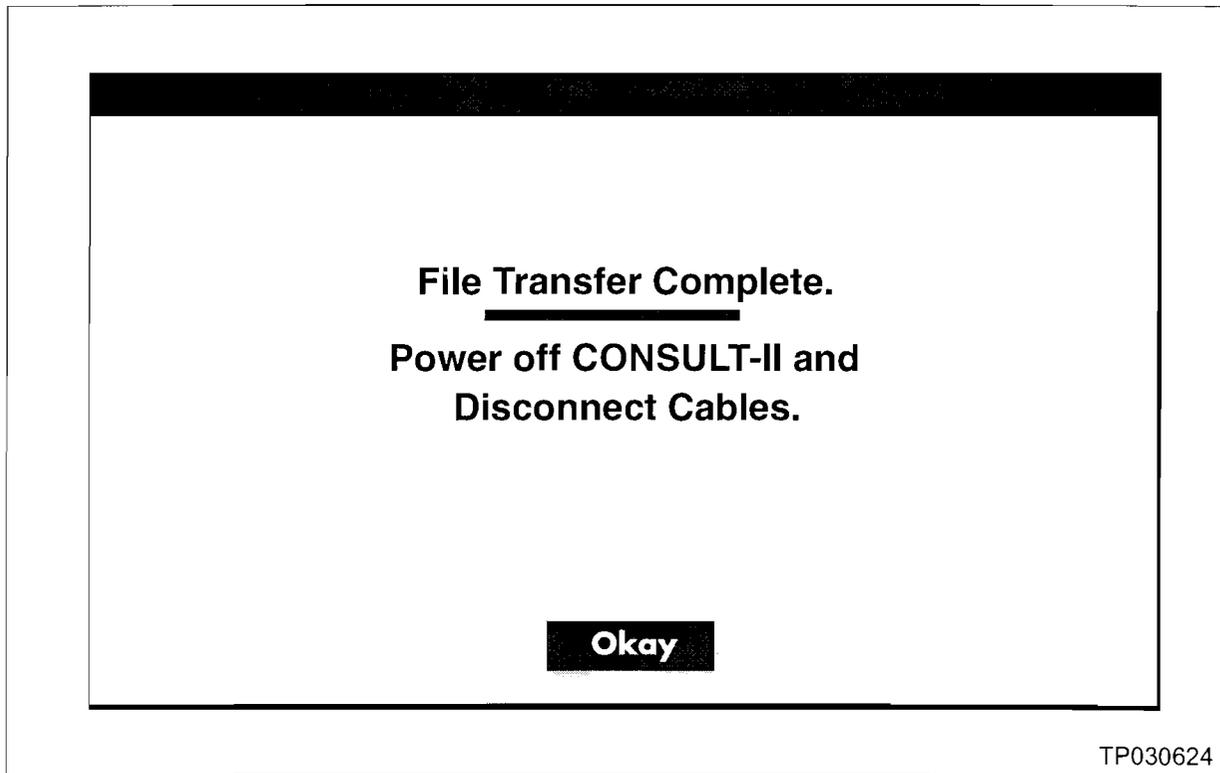

Figure 9
CAUTION: DO NOT DISCONNECT THE ETHERNET CABLE UNTIL "COMPLETE" IS DISPLAYED AS SHOWN IN FIGURE 9 ON THE NEXT PAGE.
11. When transfer is complete (see Figure 9):